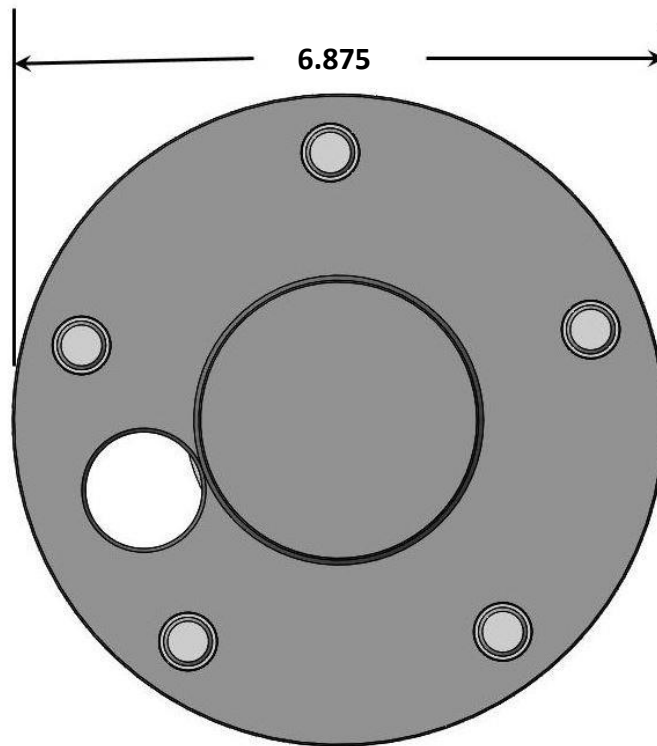

Figure 1 – Measuring the Axle Flange
4. The outer diameter of the axle flange can be no larger than 6.875" in outside diameter. This is critical for proper fitment of the rotor over the axle flange. For axles with a flange larger than 6.875", using a lathe, machine the outer flange down to the necessary diameter of 6.875". See Figure 1 on the next page for measuring reference.